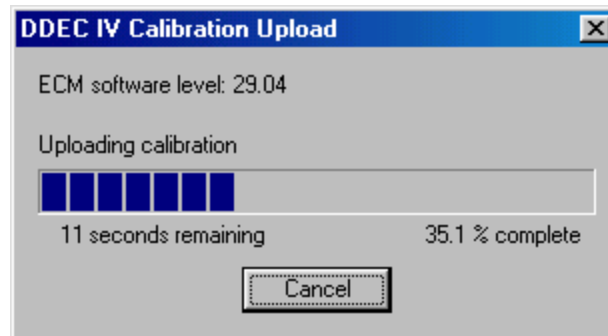

Figure 5
4. The reprogramming process will begin (Figure 5).